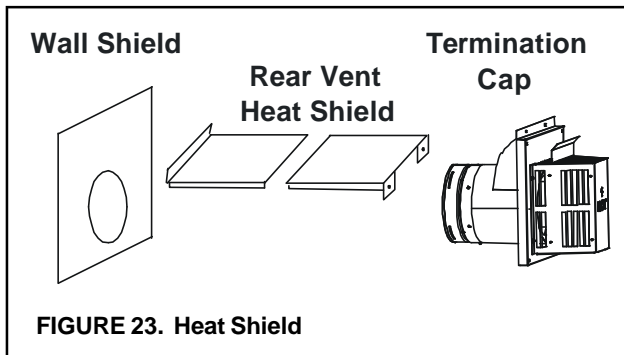

FIGURE 23. Heat Shield
- One section of the heat shield attaches to the wall shield with two screws. The other is attached to the cap in the same manner (see Figure 23).